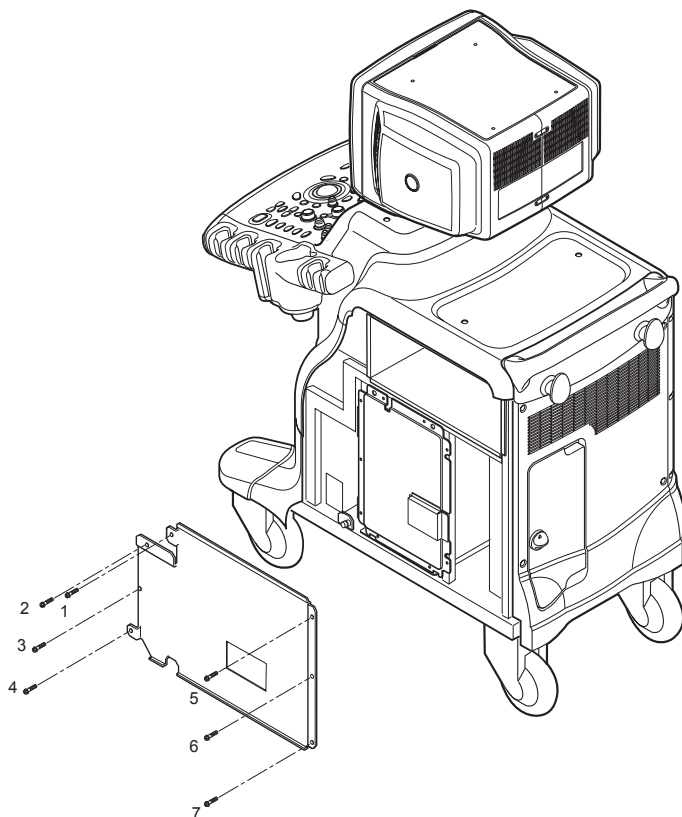

Figure 8-95 Removing the EMI Cover R
- 2.) Unscrew seven (7) screws (1-7).
- 3.) Remove the EMI Cover R. Refer to Figure 8-95 on page 8-49 .